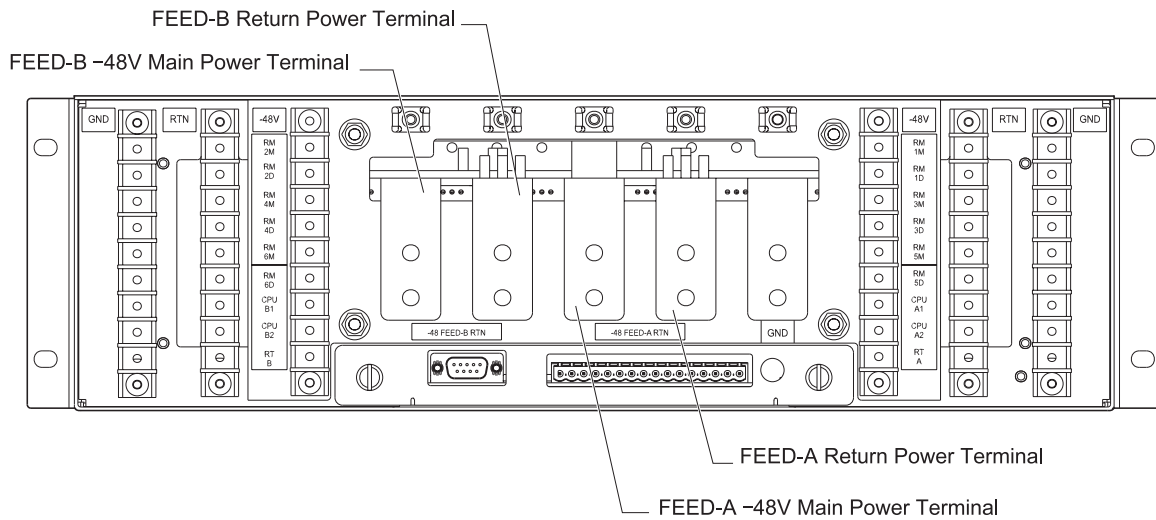

Figure 4.15 Main and Return Power Terminals
- 7 Connect the compression lugs on the return power cables to each return terminal shown in Figure 4.15. Use hex nuts with split-lock washers when securing the cables. Torque each hex nut TBD N•m (inch - pounds).
- 8 Connect the compression lugs on the main power cables to each –48V DC power terminal shown in Figure 4.15. Use hex nuts with split-lock washers when securing the cables. Torque each hex nut to TBD N•m (inch-pounds).